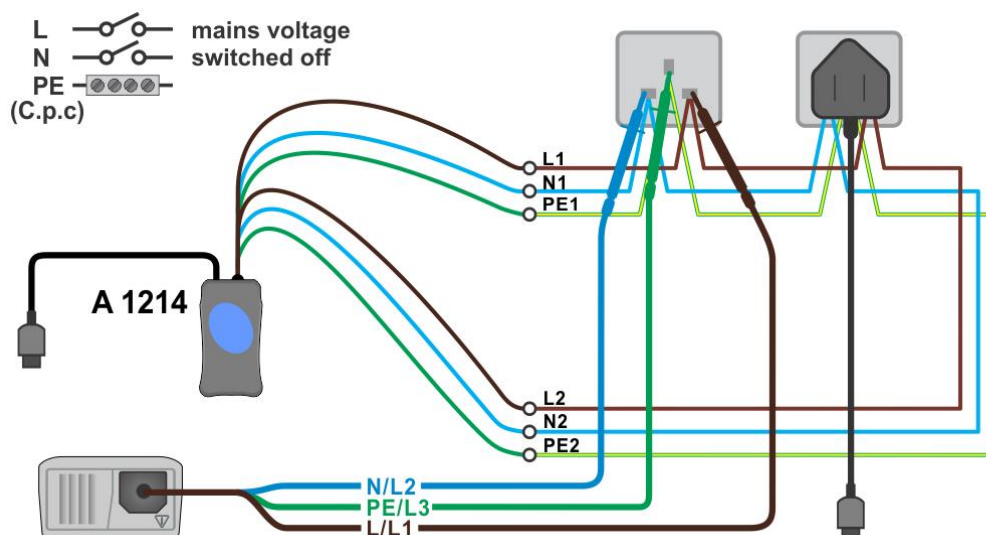

Figure 5.18: Step 2 - measurement of resistances R_1+R_2 , R_1+R_N
- ❑ **Easy switch** must stay connected to the final ring circuit. The electrical installation must be de-energized during the test (see *figure 5.18*).